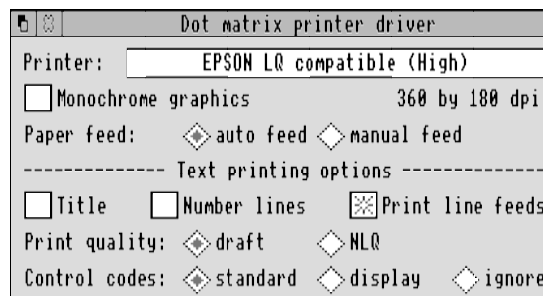

Figure 11.4 A printer driver dialogue box
**Printer Options.** Clicking Select on the icon on the icon bar brings up a dialogue box such as that shown in Figure 11.4, which fairly obviously comes from the *PrinterDM* driver and shows the setting for my Panasonic KX-P1124, which is a 24-pin printer. You can change the printer type in this sort of dialogue box by clicking Select on the name shown; this chooses each of the preset printer types in turn, eventually cycling back to the beginning. Clicking Adjust cycles in the other direction, which is useful if you go past the one you want. The same type of printer will probably appear several times during the cycle, offering different resolutions. If you want to print something out in a rough and ready way, use the coarsest draft